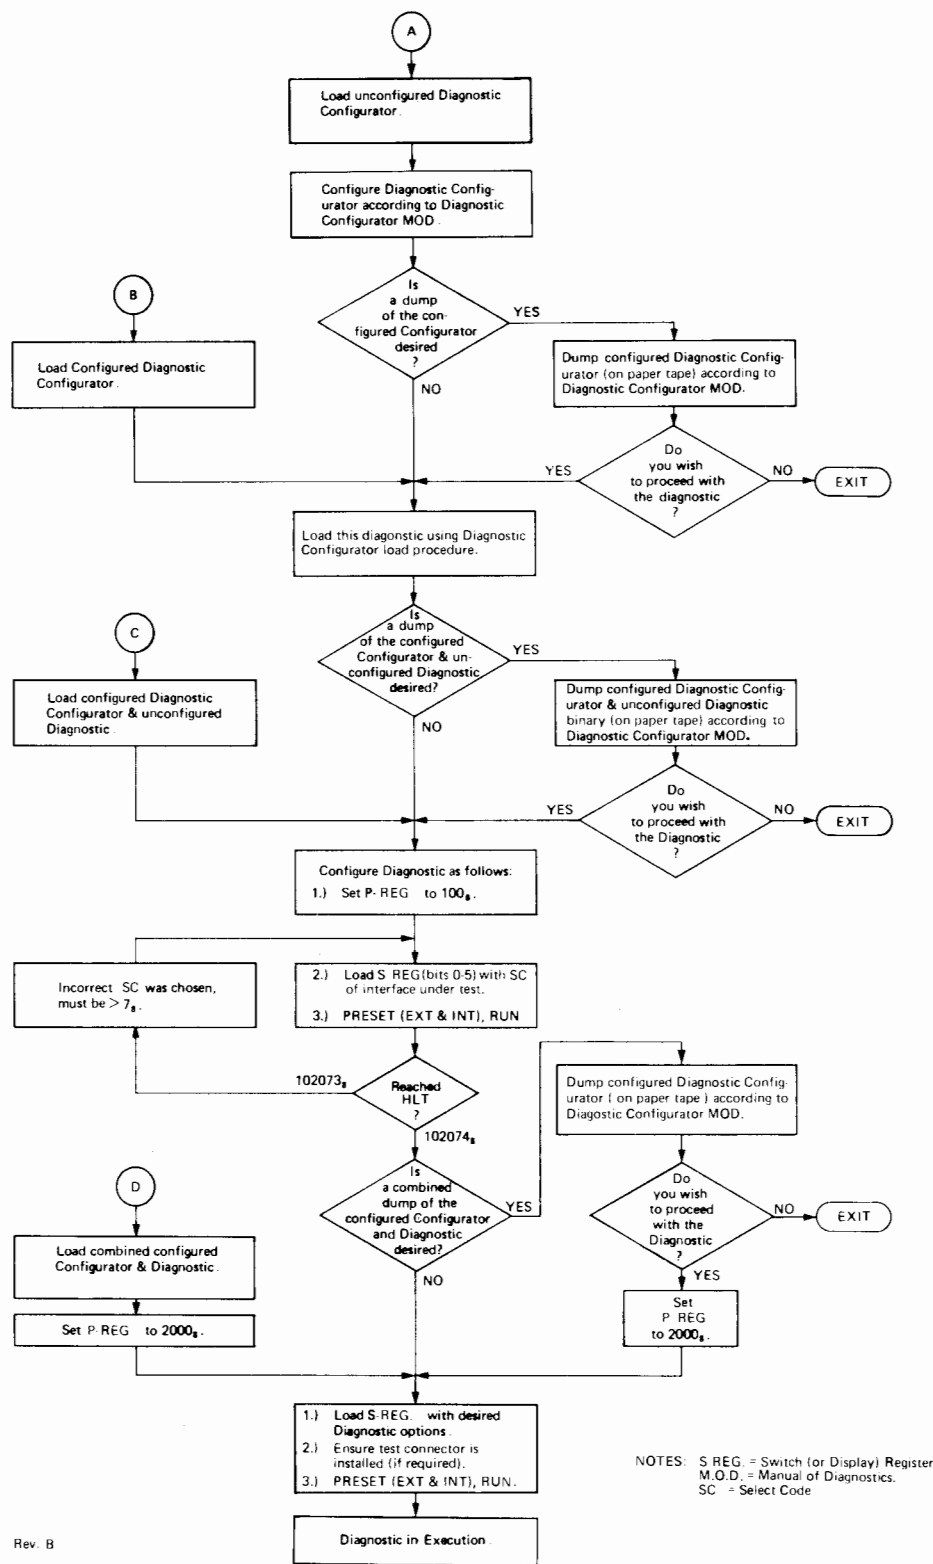

Figure 3. Operating Procedure Flowchart
- b. Figure 3 is the operating procedure flowchart for loading the Diagnostic Configurator and this diagnostic.